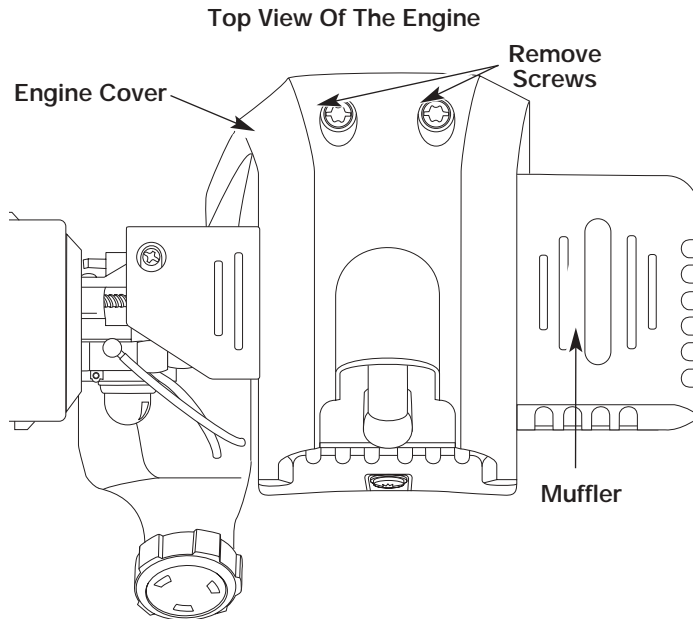

Fig. 24
1. Remove the two (2) screws on top of the engine cover with a Flat-head or T-25 Torx screwdriver (Fig. 24).